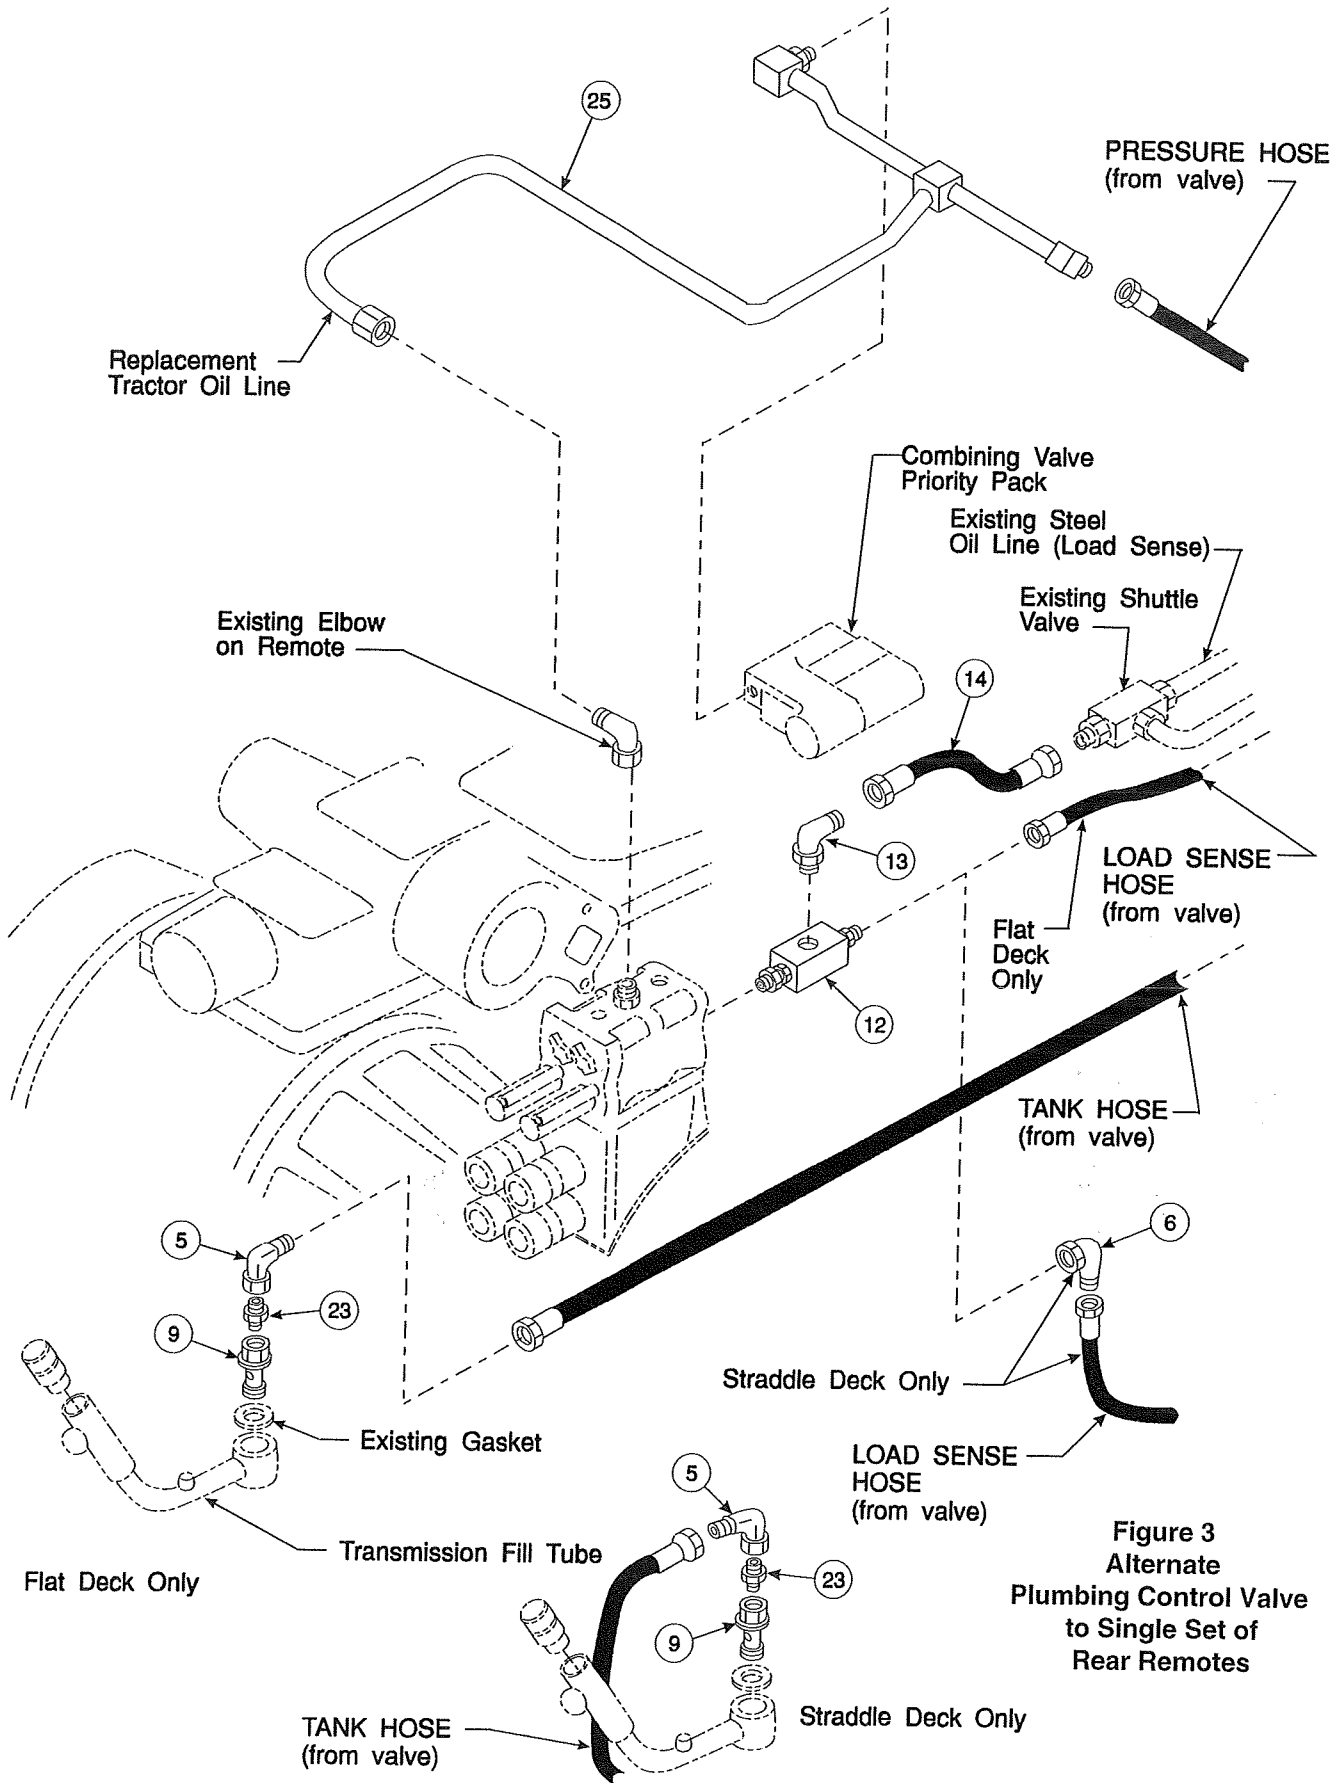

Figure 3
1. Remove o-ring adapter fitting from front of tractor remote valve where small load sense line was connected. Screw shuttle valve (12) directly into port vacated. Make sure male tip with o-ring goes into tractor valve. Leave shuttle valve (12) loose at this time until best position is determined.
2. Screw 7/16 x 9/16 x 90 elbow (13) into female port of shuttle valve. Position this elbow so:
- A. If short load sense line is removed, 1/4 x 16 hose (14)(Figures 3 & 4) can be connected from 7/16 x 9/16 x 90° elbow (13) to fitting where other end of load sense line was removed. Connect 1/4 x 16 hose (14) and tighten all fittings and shuttle valve.